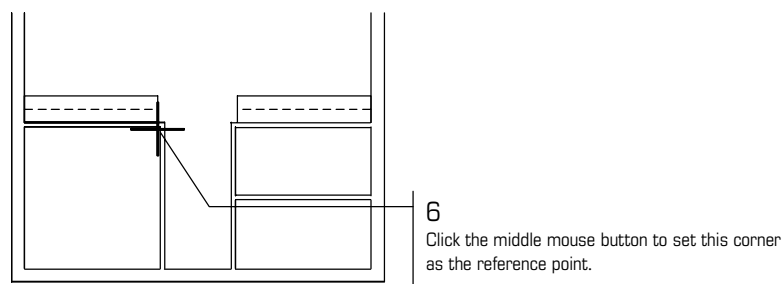

Figure 3.37: Setting a reference point.
6. Click the middle mouse button near the upper-right corner of the first room you drew, as shown in Figure 3.37. Stay close to the inside of the corner. This will be your reference point. You are prompted to “Select hinge side of door”.